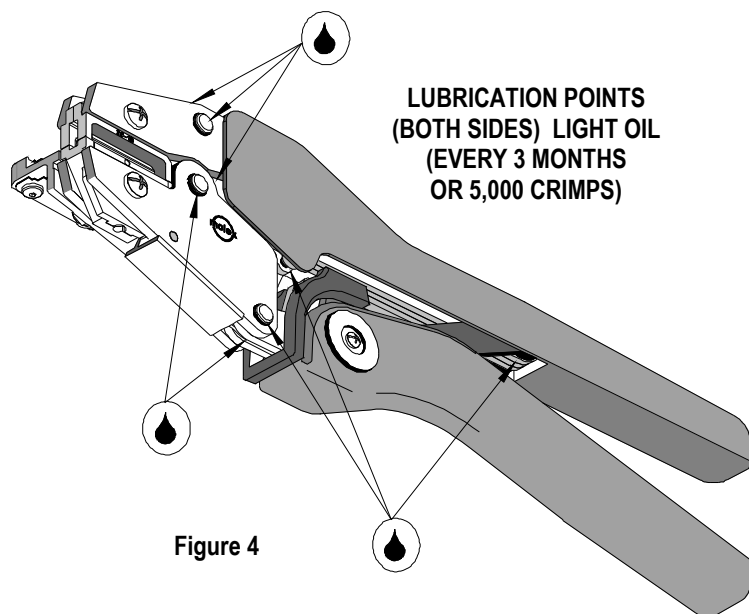

Figure 4
3. Make certain all pin, pivot points and bearing surfaces are protected with a thin coat of high quality machine oil. Do not oil excessively. This tool was engineered for durability, but like any fine piece of equipment it needs cleaning and lubrication for a maximum service life of trouble-free crimping. A light oil, such as 30 weight automotive oil, can be used at the oil points shown in Figure 4, every 5,000 crimps or 3 months will significantly enhance the tool life and ensure a stable calibration.